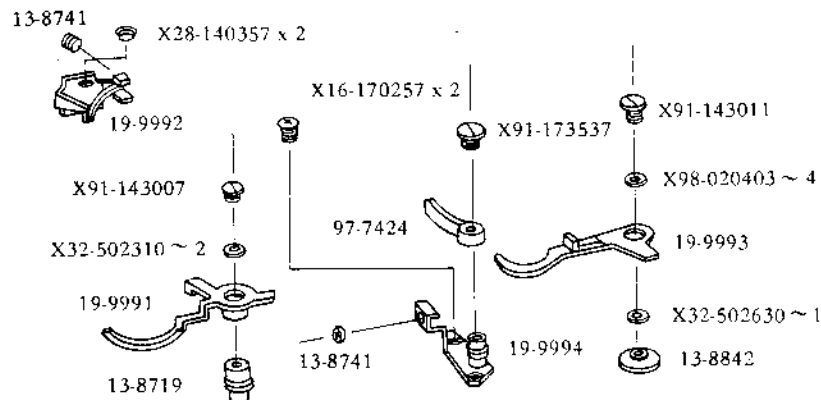

Fig. 3
- 1) Mount the parts in the sequence shown in Fig. 3.